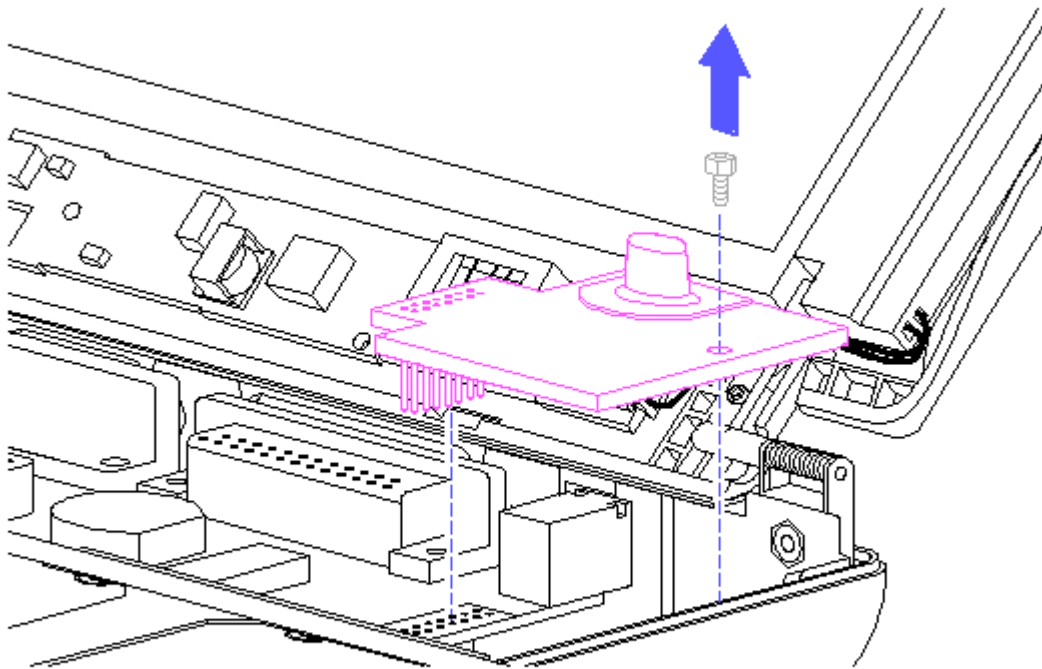

Figure 3-36. Unplugging the Power Supply
5. Remove the threaded standoff that secures the power supply (Figure 3-36).
6. Gently grasp the power supply and pull up to unplug (Figure 3-36).